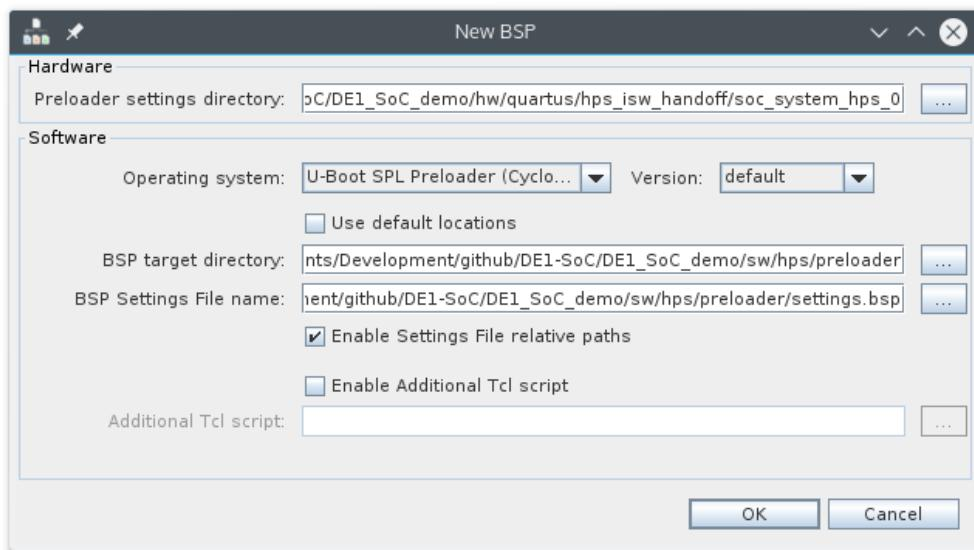

Figure 12-1. New BSP Dialog
- b. Disable the “Use default locations” checkbox and under the “BSP target directory”, select the “DE0\_Nano\_SoC\_demo/sw/hps/preloader” directory. You should have something similar to Figure 12-1.